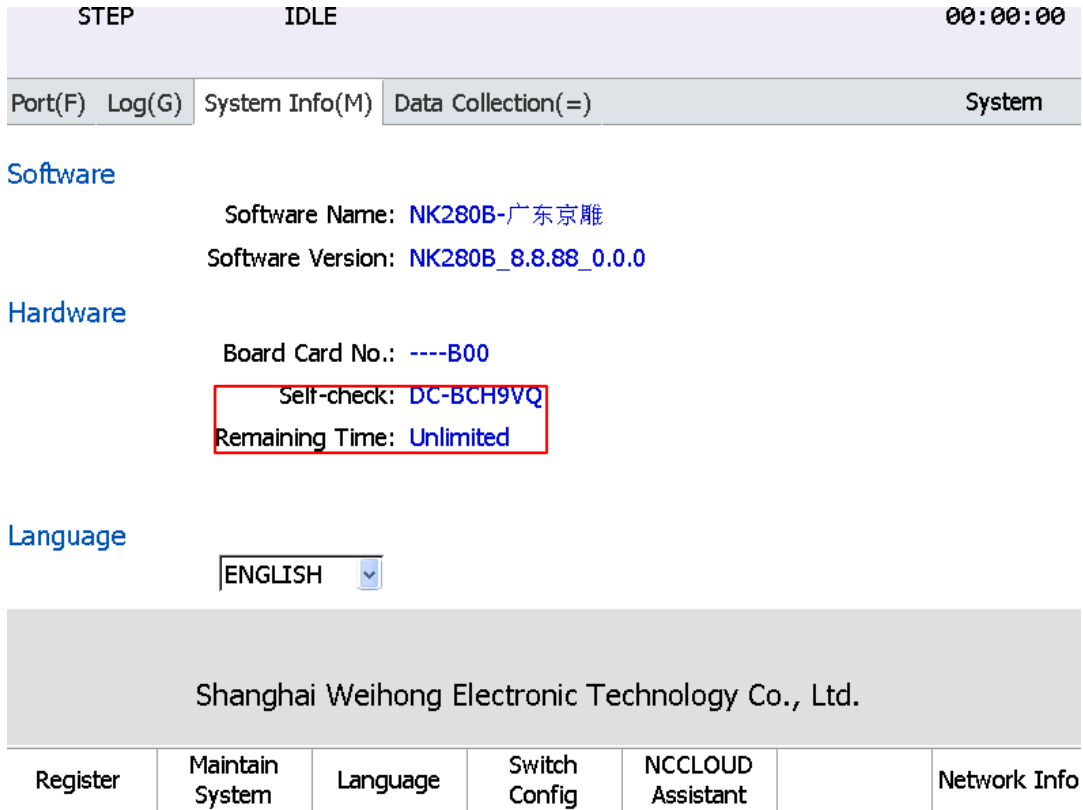

Figure 3-24 System information interface
Users can view the remaining time of the system in the interface shown in figure 3-24.
- Operation: <System> → <M System Info> (open the interface shown in figure 3-24) → <F1 Register> (pup-up dialog shown in figure 3-26) → (enter registration code) → <F6 OK> or <Enter> → (Power off and restart, registration is successful).